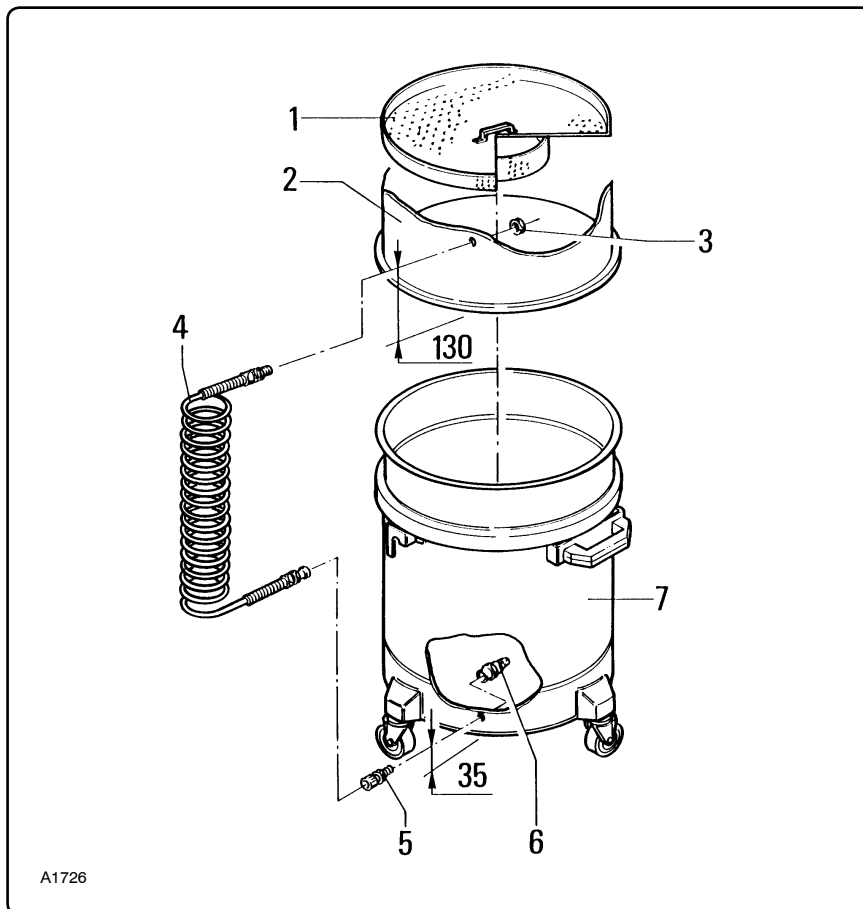

Fig. 6.10.3
6.10.3 -Plate and suction pipe (fig. 6.10.3)